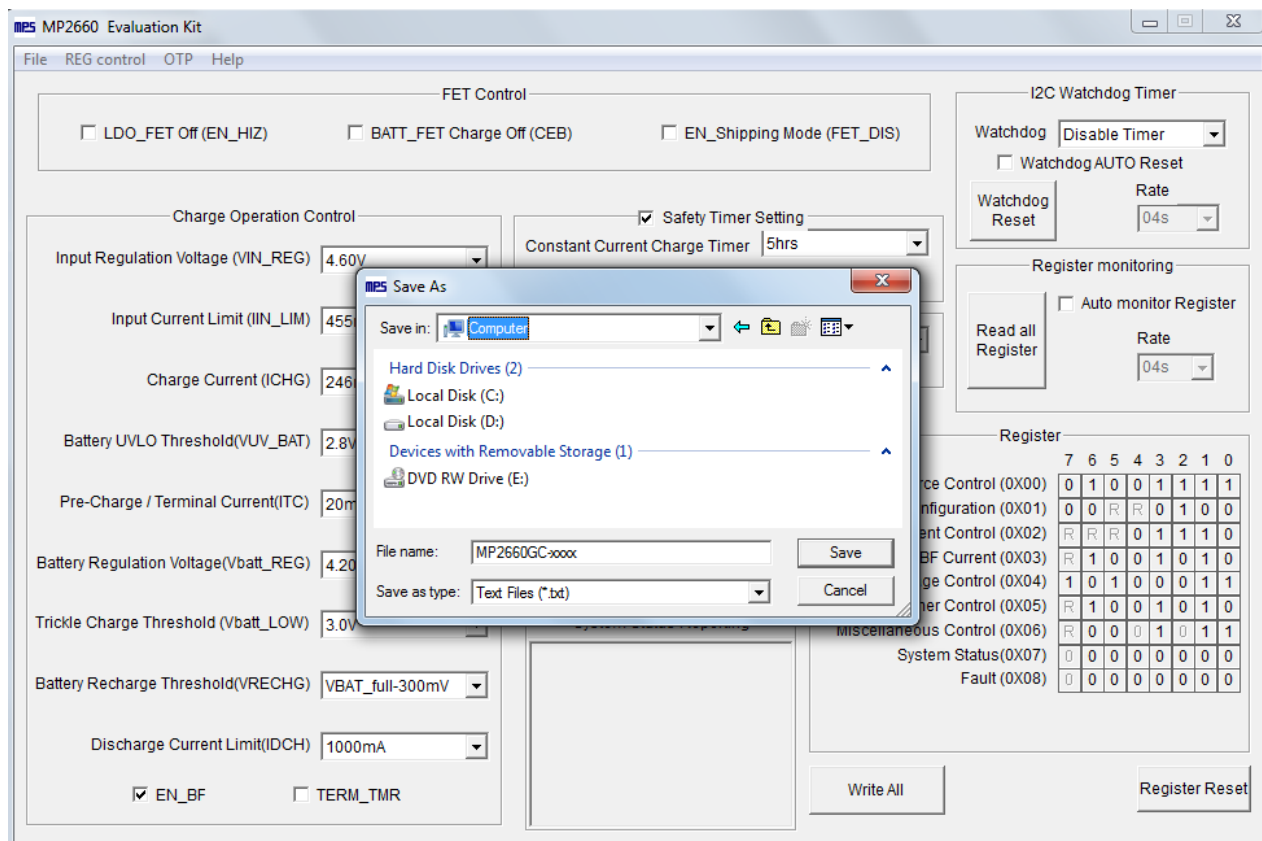

Figure 11: Various Export Locations Available
6. Find a location for the exported file and click “Save.” Your configurations will be saved in a text file (see Figure 11).